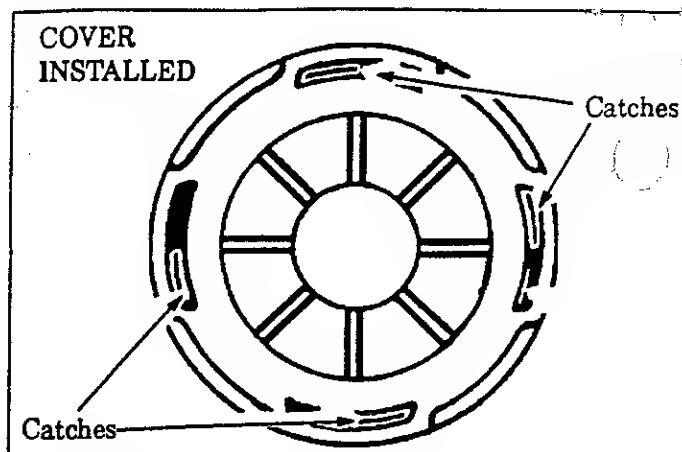

Figure 19
- Check to make sure all four Catches and the Lock Tab are properly fastened as shown in Figure 19 , then test the Cover by trying to turn it counterclockwise ← .